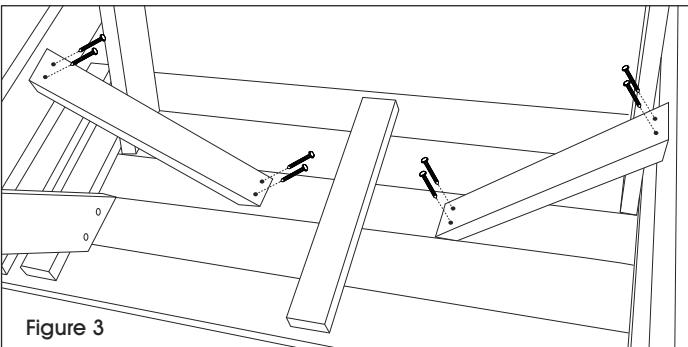

Figure 3
7. Make sure the legs are perpendicular to the table top to ensure table top is level. Pre-drill and attach diagonal braces using four 2½" wood screws to the cross-member and preassembled table top. (See Figure 3)